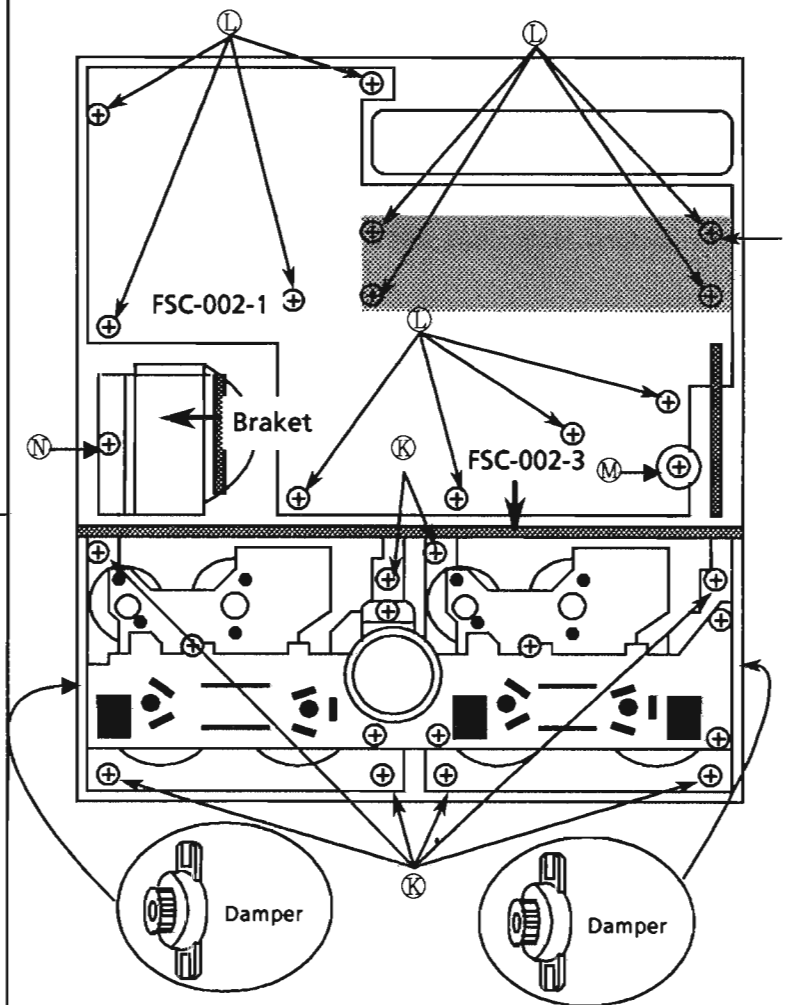

Fig 10 Front panel Rear view
1. Remove the screws (N)(Fig.10).
4. Remove the Nut (O).